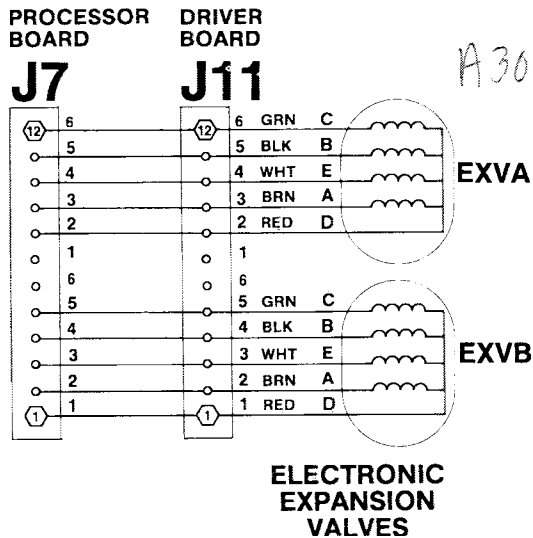

Fig. 19 — Printed-Circuit Board Connector
Turn power OFF. Connect positive test lead of meter to terminal 8 on connector J7 (see Fig. 19). Set meter for approximately 20 vdc. Turn power ON, but do not enter Quick Test mode. For first 50 seconds valve motor windings will be alternately energized to close valve in circuit 1. During this time, connect negative test lead to terminals 9, 10, 11, and 12 in succession. Voltage should rise and fall at each pin. If it remains constant at a voltage or at 0 v, remove connector and recheck. If problem is still there, replace pro-
Step 2 — Check EXV Wiring — Check wiring to electronic expansion valves from J7 terminal strip on processor board (see Fig. 19).